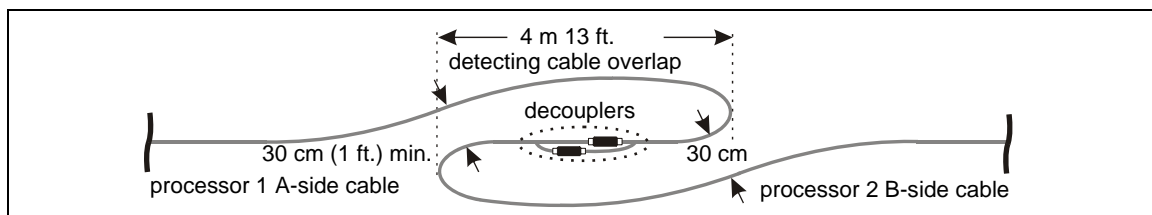

Figure 116: Connecting two SC1 sensor cables through decouplers (method 1, active loop)
1. Refer to Figure 116: and the site plan to dig trenches or excavate the installation location for the decouplers.
2. Form the two sensor cables into overlapping loops (see Figure 116:).